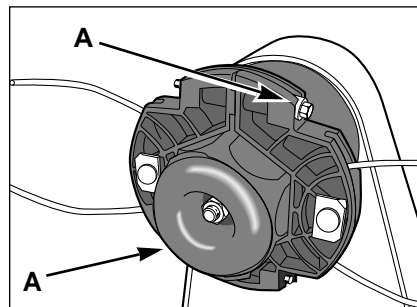

Figure 4-1
B. Use a 1/2" wrench to loosen both bolts (A, Figure 4-1) securing the trimmer head.